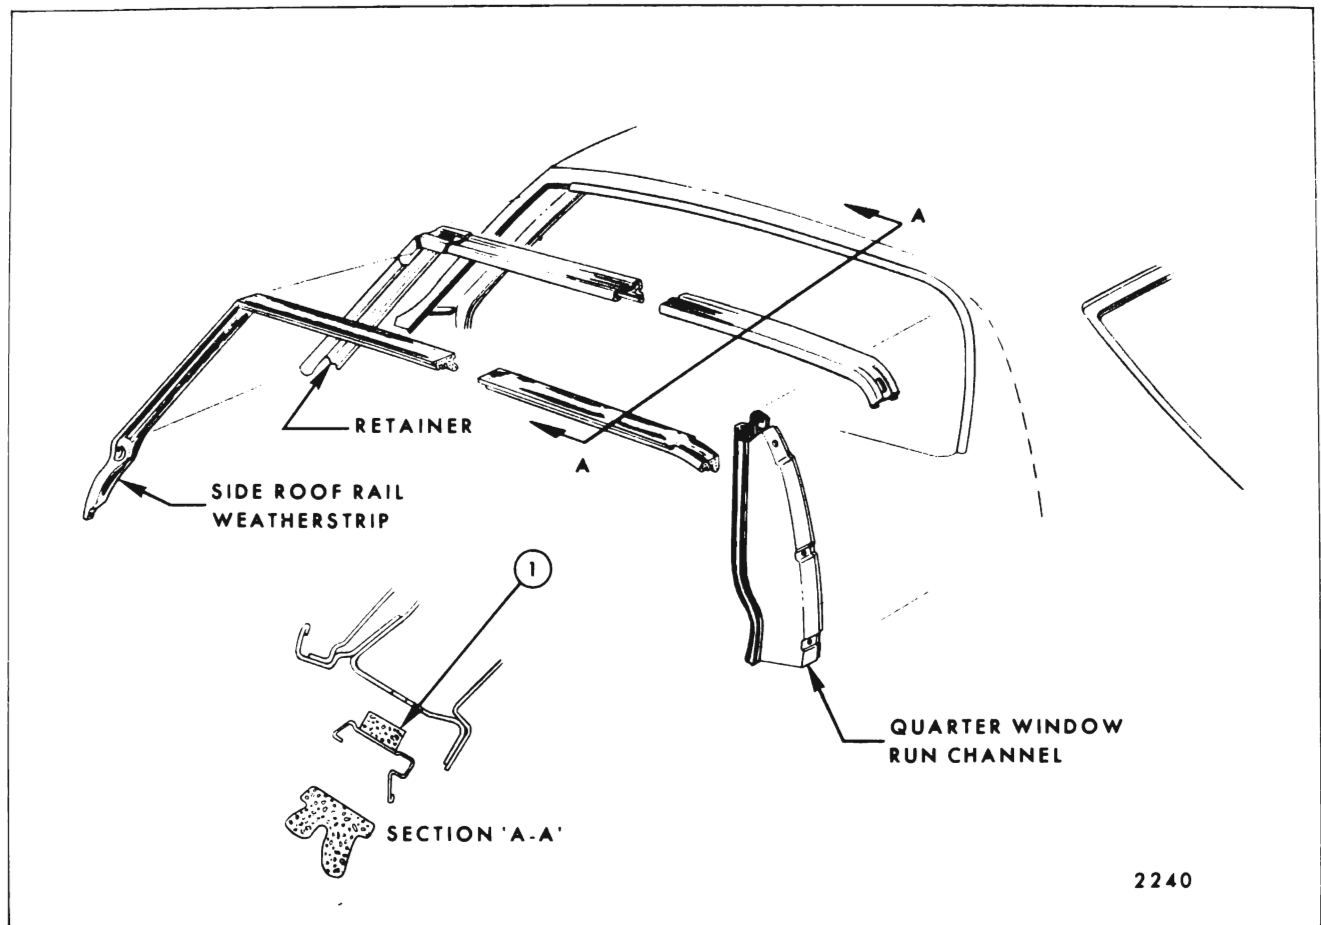

Fig. 6-19—Side Roof Rail Weatherstrip & Retainer - "B & C-47" Styles
1. At front of weatherstrip, disengage plastic fasteners from front body hinge pillar (Fig. 6-19).